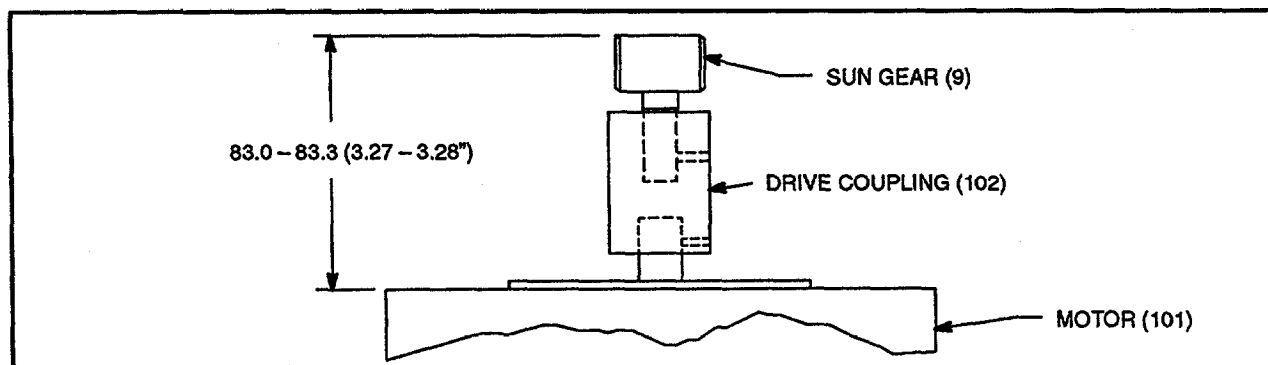

Figure 4 - Sun Gear Placement
- a. **PACK THE GEAR CARRIER (1)** with grease and rotate the gears several times to distribute the grease to the needle bearings (13). Refer to Section 6 for lubricant recommendations.
- b. Align the flats on the inside of the gear carrier (1) with the flats on the drive quill (51). Place the gear carrier and sun gear (9) assembly onto the drive quill.
- c. Install ring gear (2) and O-ring (43) in the gear housing (21).
- e. Install O-ring (22) in its groove on the gear housing.
- f. Align the gear housing rabbet with the groove in the bearing housing (36). Align the bolt holes in the gear housing with the holes in the bearing housing, and the bosses in the gear housing with the grooves in the ring gear (2).
- g. Install the gear housing over the ring gear and onto the bearing housing (36). It may be necessary to GENTLY tap the gear housing with a rubber mallet in order to seat the gear housing against the bearing housing with no visible gaps between surfaces. Use care so as not to damage the gear housing rabbet.
- h. Remove the sun gear (9) from the gear carrier (1).
- i. Place drive coupling assembly (102) on motor shaft if necessary.
- j. Install the sun gear (9) into the drive coupling (102) until it shoulders against the drive coupling. Tighten the two set screws to 9 N·m (7 ft-lbs).
- k. Set the elevation of the sun gear to the dimension shown in Figure 4 and tighten the remaining two coupling set screws to 9 N·m (7 ft-lbs).